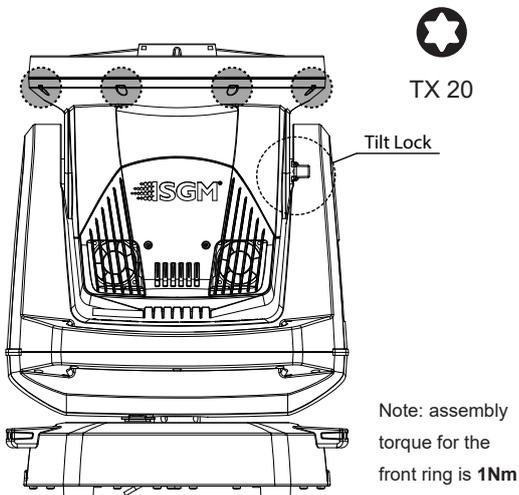

Figure 14
3. Loosen up the 8 screws behind the front ring to remove it (figure 14).